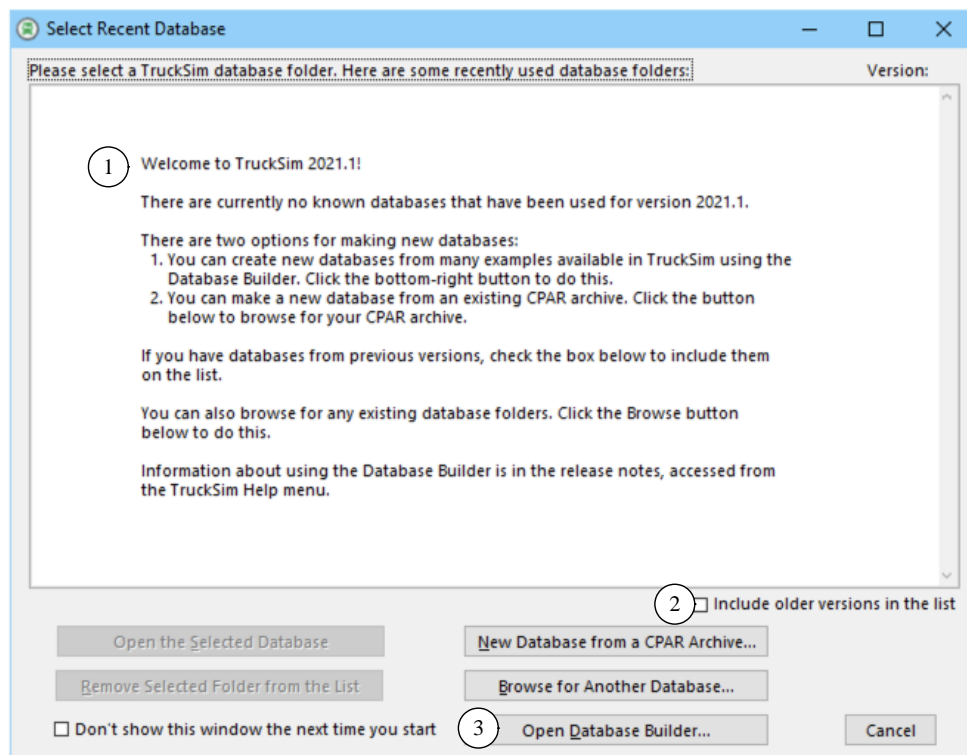
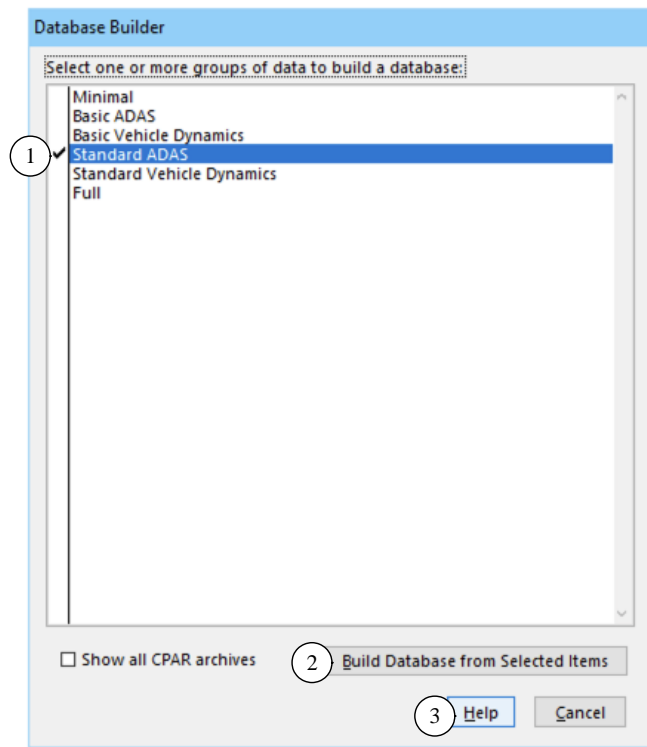
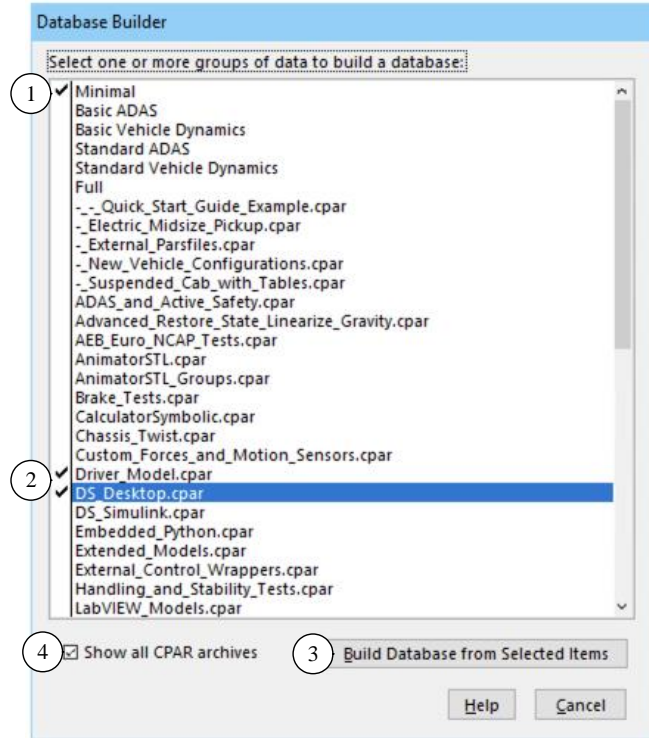

Figure 1. Recent Database window shown when opening a new version of TruckSim.
Figure 2. The database builder window showing only predefined database options.
Figure 4. Display when CPARs are also shown.
When opening recent versions of TruckSim, a window appears listing database folders that are known for the current version. This window (Figure 1) has been extended for 2021.1, providing access to a new tool: the Database Builder.
To access examples for 2021.1 when you start TruckSim, click the button **Open Database Builder** (3) (Figure 1) to bring up the Database Builder window (Figure 2). When a group of data is selected
①, the button **Build Database from Selected Items** ② becomes active. The **Help** button ③ opens a PDF document that describes the options.
**Note** Three of the first four options in the **File** menu correspond directly to three of the buttons in the **Select Recent Database** window (Figure 1).
Figure 2 shows that TruckSim 2021.1 provides six predefined databases. Table 1 provides a little more information about these options.
None of the six basic options shown in Figure 2 include specialty examples, such as RT HIL systems, software development kit (SDK) examples, examples using external tire models, etc. To access these, and other specific categories of examples, check the box **Show all CPAR archives** ③ (Figure 4) to see the entire collection. Notice that many CPAR archives are available, shown below the six database options described in Table 1.